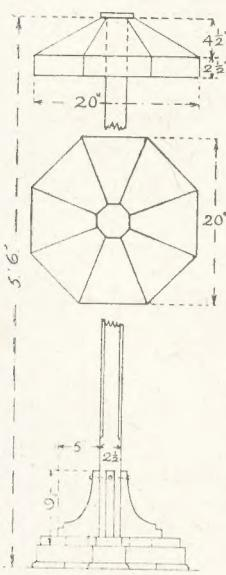
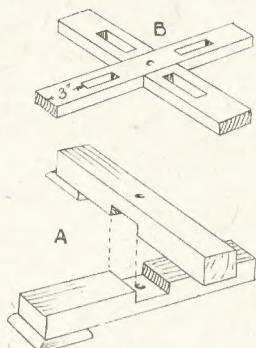
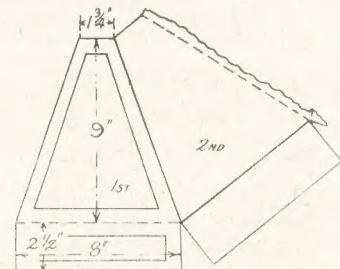

Fig. 2 — Section of standard and base
Fig. 3—Construction of base parts
Fig. 6—Shaped shade panels
Work can be commenced upon the base, the general outline and dimensions of which are given in Fig. 2. There are two sturdy crosspieces or rails measuring 18ins. long by 4ins. by 2ins. in cross section, and after they have been cut off squarely and the centres marked across, the halvings are drawn in 1in. each side of the centre line and dropped down on the thickness of the stuff to half the depth to make a sound halving joint, as seen in detail (A), Fig. 3.
To form the feet below the cross rails, cut out four blocks 5ins. by 4ins. by  $\frac{1}{2}$ in. or  $\frac{3}{4}$ in. thick. Round them off on three edges and then glue and screw them to the extremities of the cross rails. Next make the upper members of the cross feet, the two rails (B), as seen in Fig. 3. These are each 17ins. long by 3ins. wide by 1in. thick, and on each, two mortises are to be marked out, as the detail shows, 3ins. in from the ends of the rails and the mortises are 3ins. long and 1in. wide. Cut them through with a coarse fretsaw, keeping just inside the drawn lines so as to insure a tight fit when the brackets are inserted.
of the shade towards the top, so that when eight of these single sections are laid side by side, as in the layout Fig. 6, the parts are ready for scoring and cutting.
By scoring is meant those lines between each panel is cut in very lightly with the tip of a knife, thus enabling a bend to be made exactly along a line. The interior of each panel is cut away as well as the smaller front panel which hangs down, as seen in the front view Fig. 2. On the 8th panel in Fig. 6 is seen a marginal strip, this, when the whole is angled up, is glued to the edge of the 1st panel. Gummed tape cut to length required and put at the back of joins and creases help to strengthen the shade a good deal.
We suggest, therefore, a way of making a simple octagonal shade 20ins. square and 7ins. deep. A piece of cardboard about 29ins. square will be wanted and the general lay-out of each section forming the shade can be seen in Fig. 6.